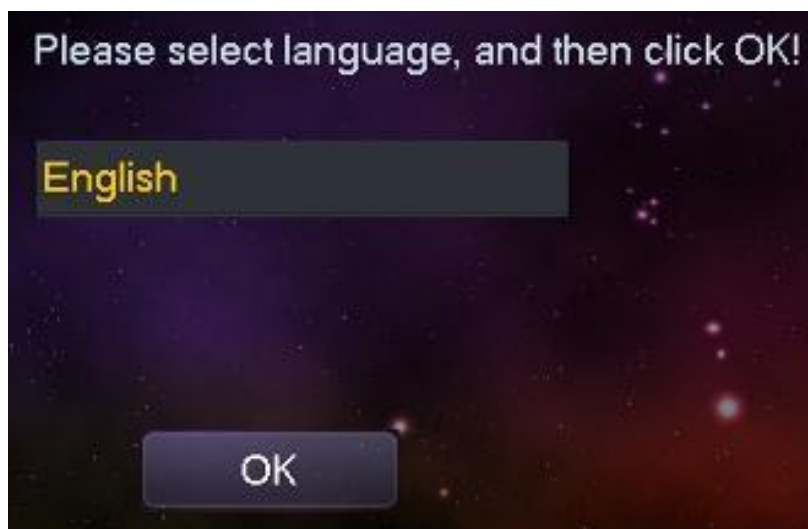

Figure 2-7
- a) When device is booting up, you can set device language. System supports English, Russian, Italian, French, Germany, Dutch, Spanish, and Portuguese by default. See Figure 2-7. After device booted up, you can go to Settings->Language->002236 to change language again.